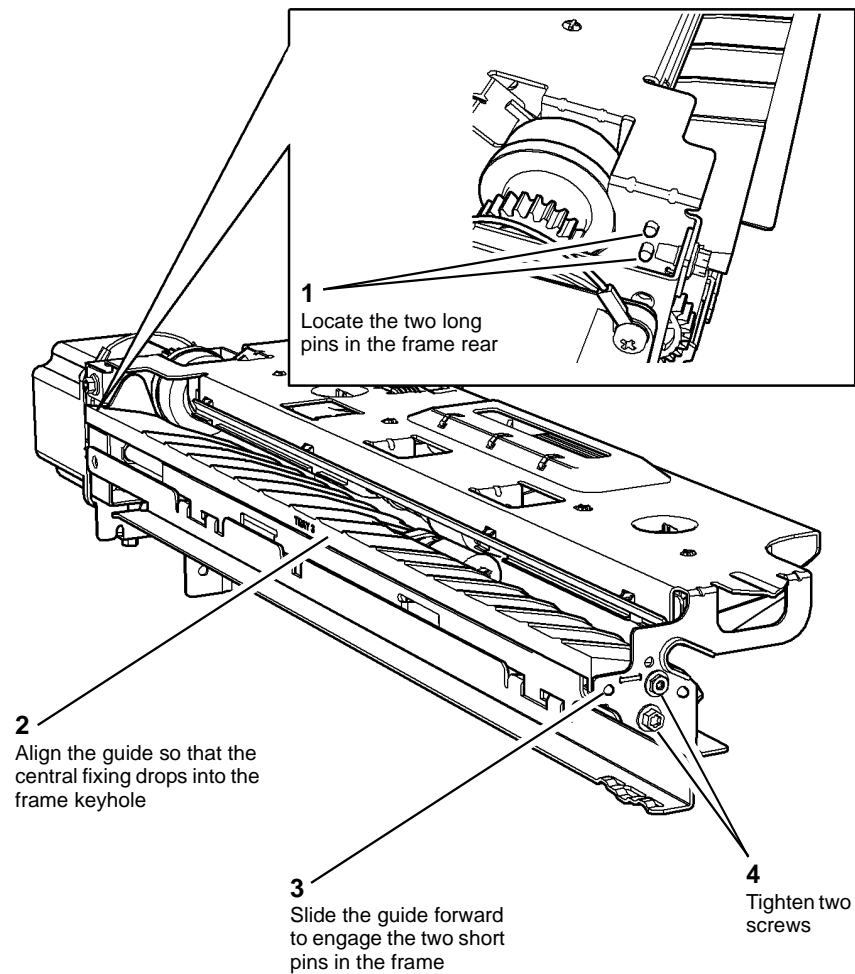

Figure 2 Paper guide replacement
1. Install the tray 3 paper guide, Figure 2.